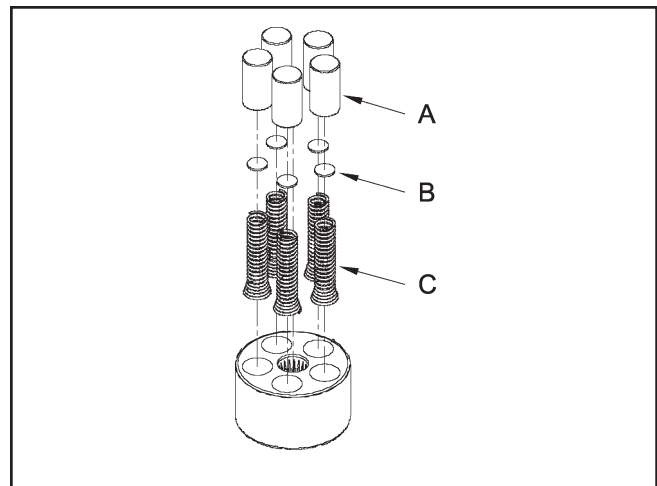

Figure 14.
9. **(See Figure 14)** Check each piston for proper operation by pressing the pistons in and releasing them in the block bore. Disassemble the pump cylinder block. Check for piston/block wear in the cylinder bore. Inspect the pistons (A), piston springs (C) and thrust washers (B) for excessive wear or damage. NOTE: Thrust washers may be held in place in the piston by residual oil.